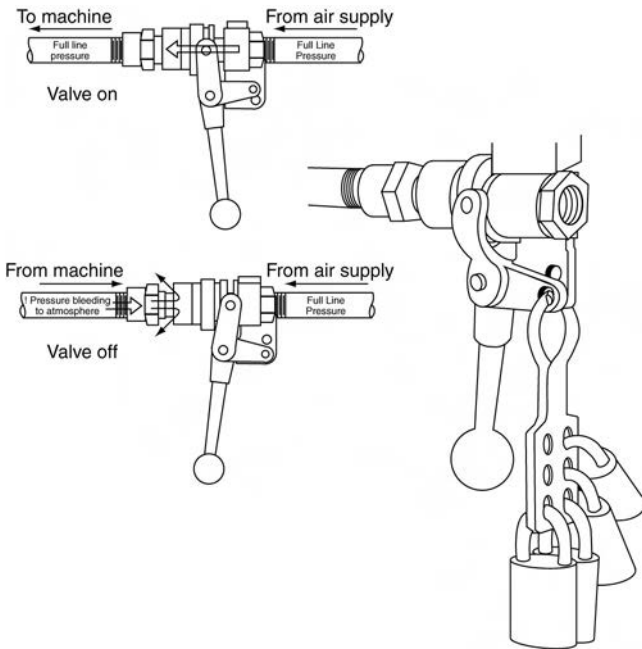

Figure 11B. Setting Air and Hydraulic Line Valves
3. Secure all moving parts (such as jack or swing conveyor) and make sure they are on the ground. Set the air or hydraulic line valves to prevent movement, unless the design of the tool allows you to perform maintenance safely without setting the valve. See Figure 11B below.